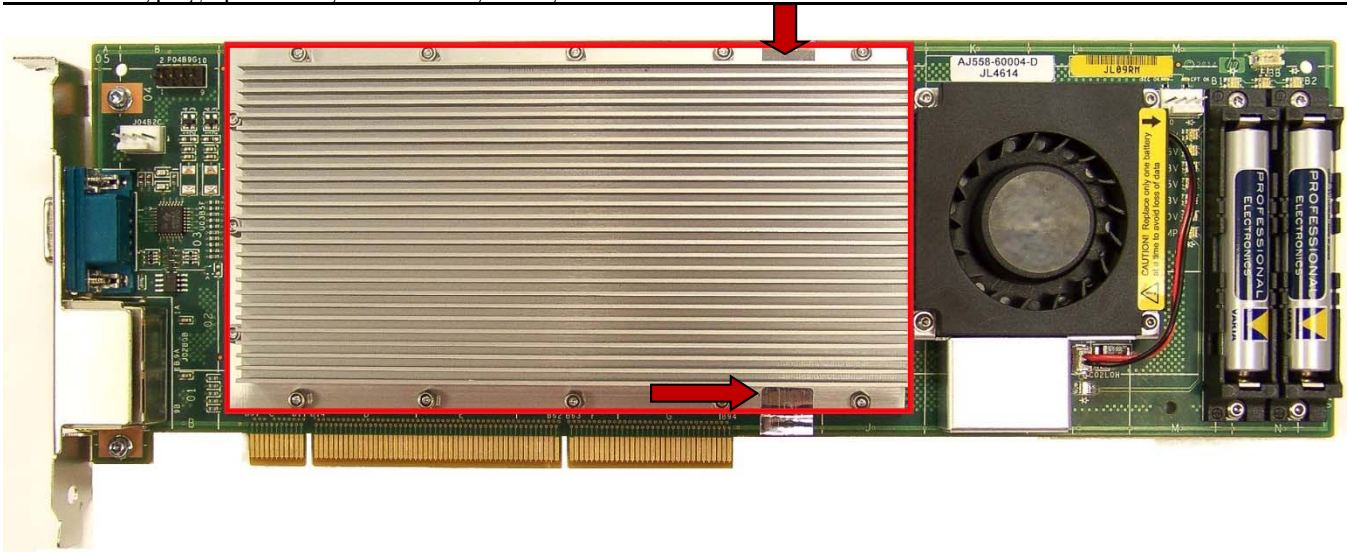
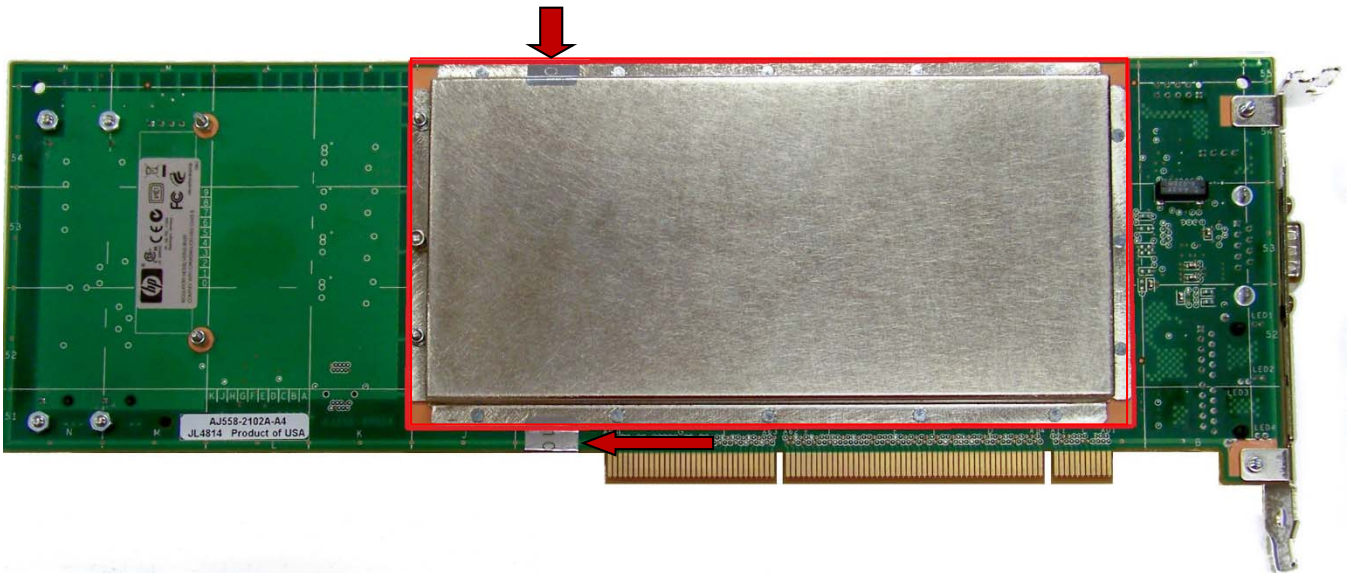

Figure 1: Front side of Atalla Cryptographic Subsystem
Figure 2: Back side of Atalla Cryptographic Subsystem
The cryptographic boundary of the ACS for the FIPS 140-2 Level 3 validation is the outer perimeter of the secure metal enclosure that encompasses all critical security components. In Figure 1 and Figure 2 below, the red line around the outer metallic enclosure represents the cryptographic boundary. The red arrows indicate where the tamper-evidence labels have been applied.
Two (2) tamper labels, applied to the edges of the module's covers during manufacturing, provide physical tamper evidence. The tamper labels are located near the fan and wrap around the front and back. See the arrows in Figure 1 and Figure 2 for the placement of these labels. The tamper labels should be inspected every six months and compared to the previously-recorded serial number to verify that fresh labels have not been applied to a tampered module. If the labels show evidence of tamper, the Crypto-Officer should assume that the module has been compromised and contact HP Customer Support.